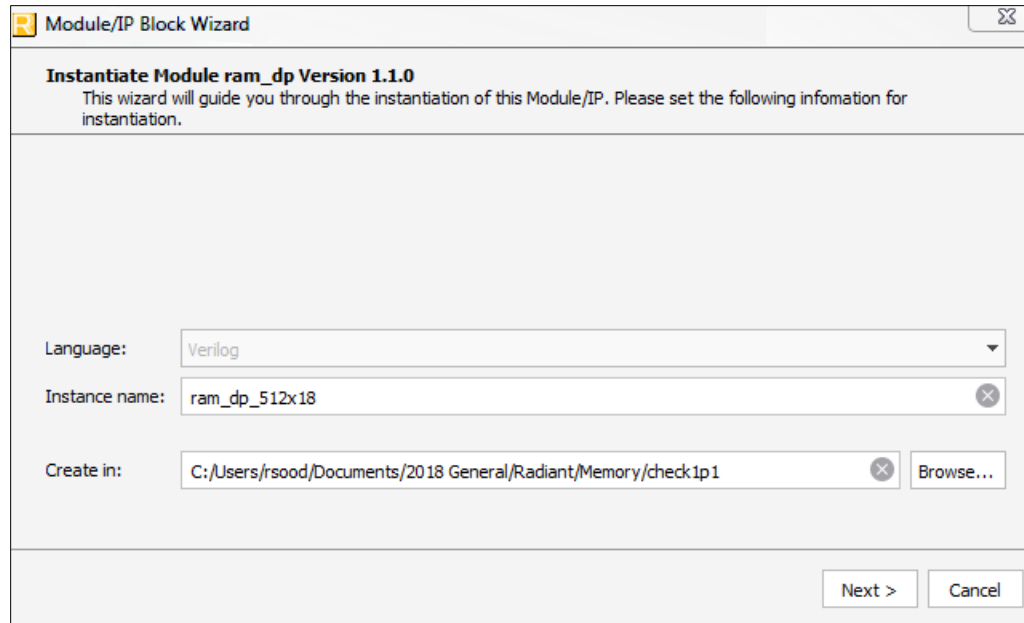

Figure 2.3. Example: Generating Pseudo Dual-Port RAM RAM_DP Using IP Catalog
2. Fill out the information of the module to generate, as shown in Figure 2.3.